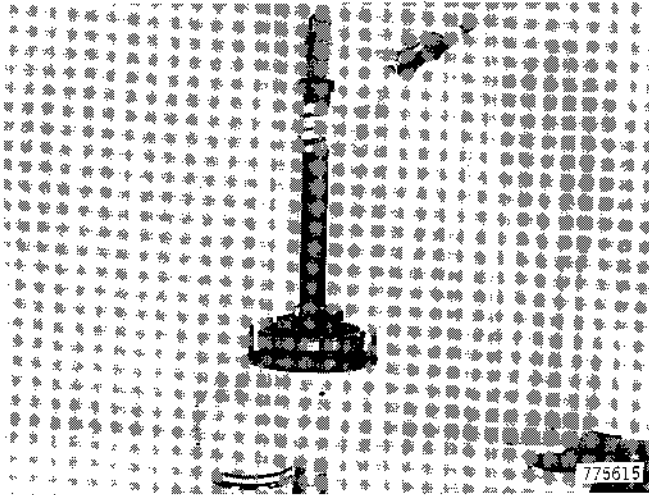

Figure 77
42. Install keys in axle shaft and install brake drum by driving it onto shaft with puller and heavy hammer, Figure 77.